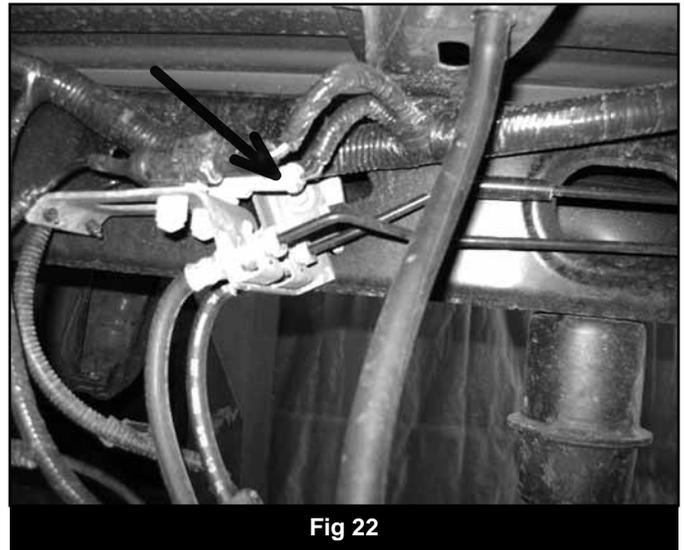

Fig 22
55. Disconnect the rear brake line from the frame. (Fig 22)